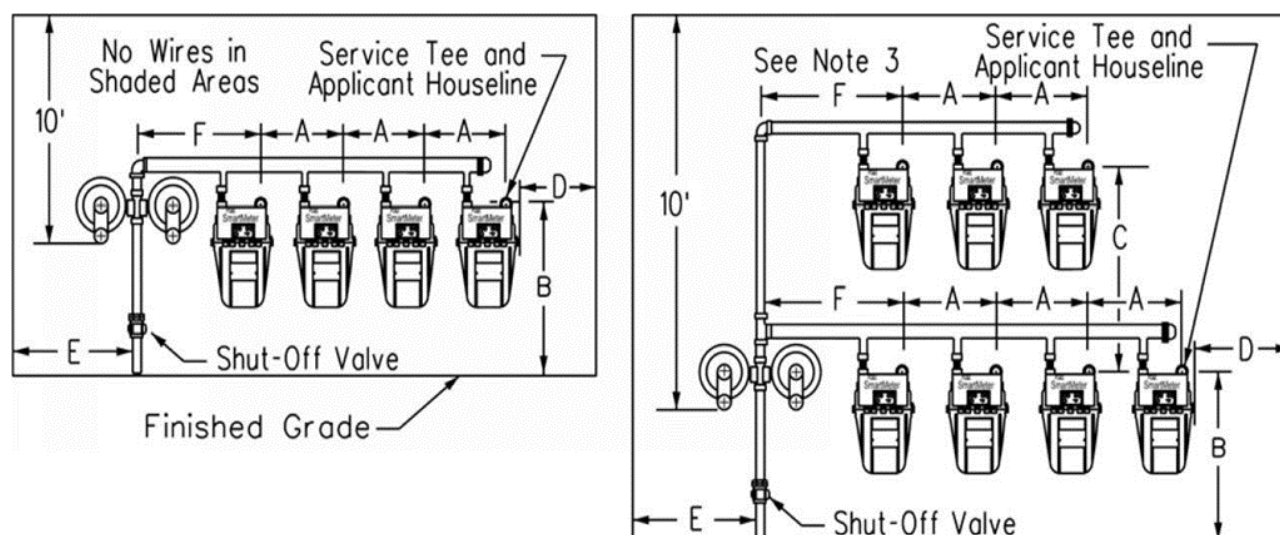

Figure 15. Typical Residential Multimeter Installations
- C. The Company limits gas meter manifold configurations to one-tier or two-tier meter manifolds not exceeding 60 inches high. These manifolds are measured from the final level standing surface to the top of the manifold. See Figure 15 and Table 1.
- D. Notes in reference to Figure 15:
- (1) The applicant's houselines must be stubbed out 4-inches to 6-inches from the finished wall at the locations shown.
- (2) The applicant must clearly mark each houseline.
- (3) Applicants must not install any electrical devices or equipment, including wires, cables, metering enclosures, telecommunication enclosures, bond wires, clamps, or ground rods within 36-inches from the service riser, 12-inches horizontally from the farthest edge of PG&E facilities, and 10-feet above the regulator vent.
- (4) Applicants may need to install the gas service riser farther away from the building to accommodate the manifold installation. PG&E will provide site-specific details for manifold meter set dimensions.
Table 1. Dimensions for Figure 15
| Label in Figure 15 | Installation Dimensions | Comments |
| D | 12" min. to outside or inside building corners. 12" to source of ignition (see Note 3 in Figure 15) and openings into the building. | From farthest edge of PG&E equipment. |
| E | 30" min. to inside or outside corner of building. 36" min. to source of ignition and openings into building (see Note 3 in Figure 15). | PG&E may approve reduction of Dimension E from building corners (to not less than 12" from edge of meter set) on a case-by-case basis – such as in non-pedestrian traffic areas, or on select PG&E equipment. |